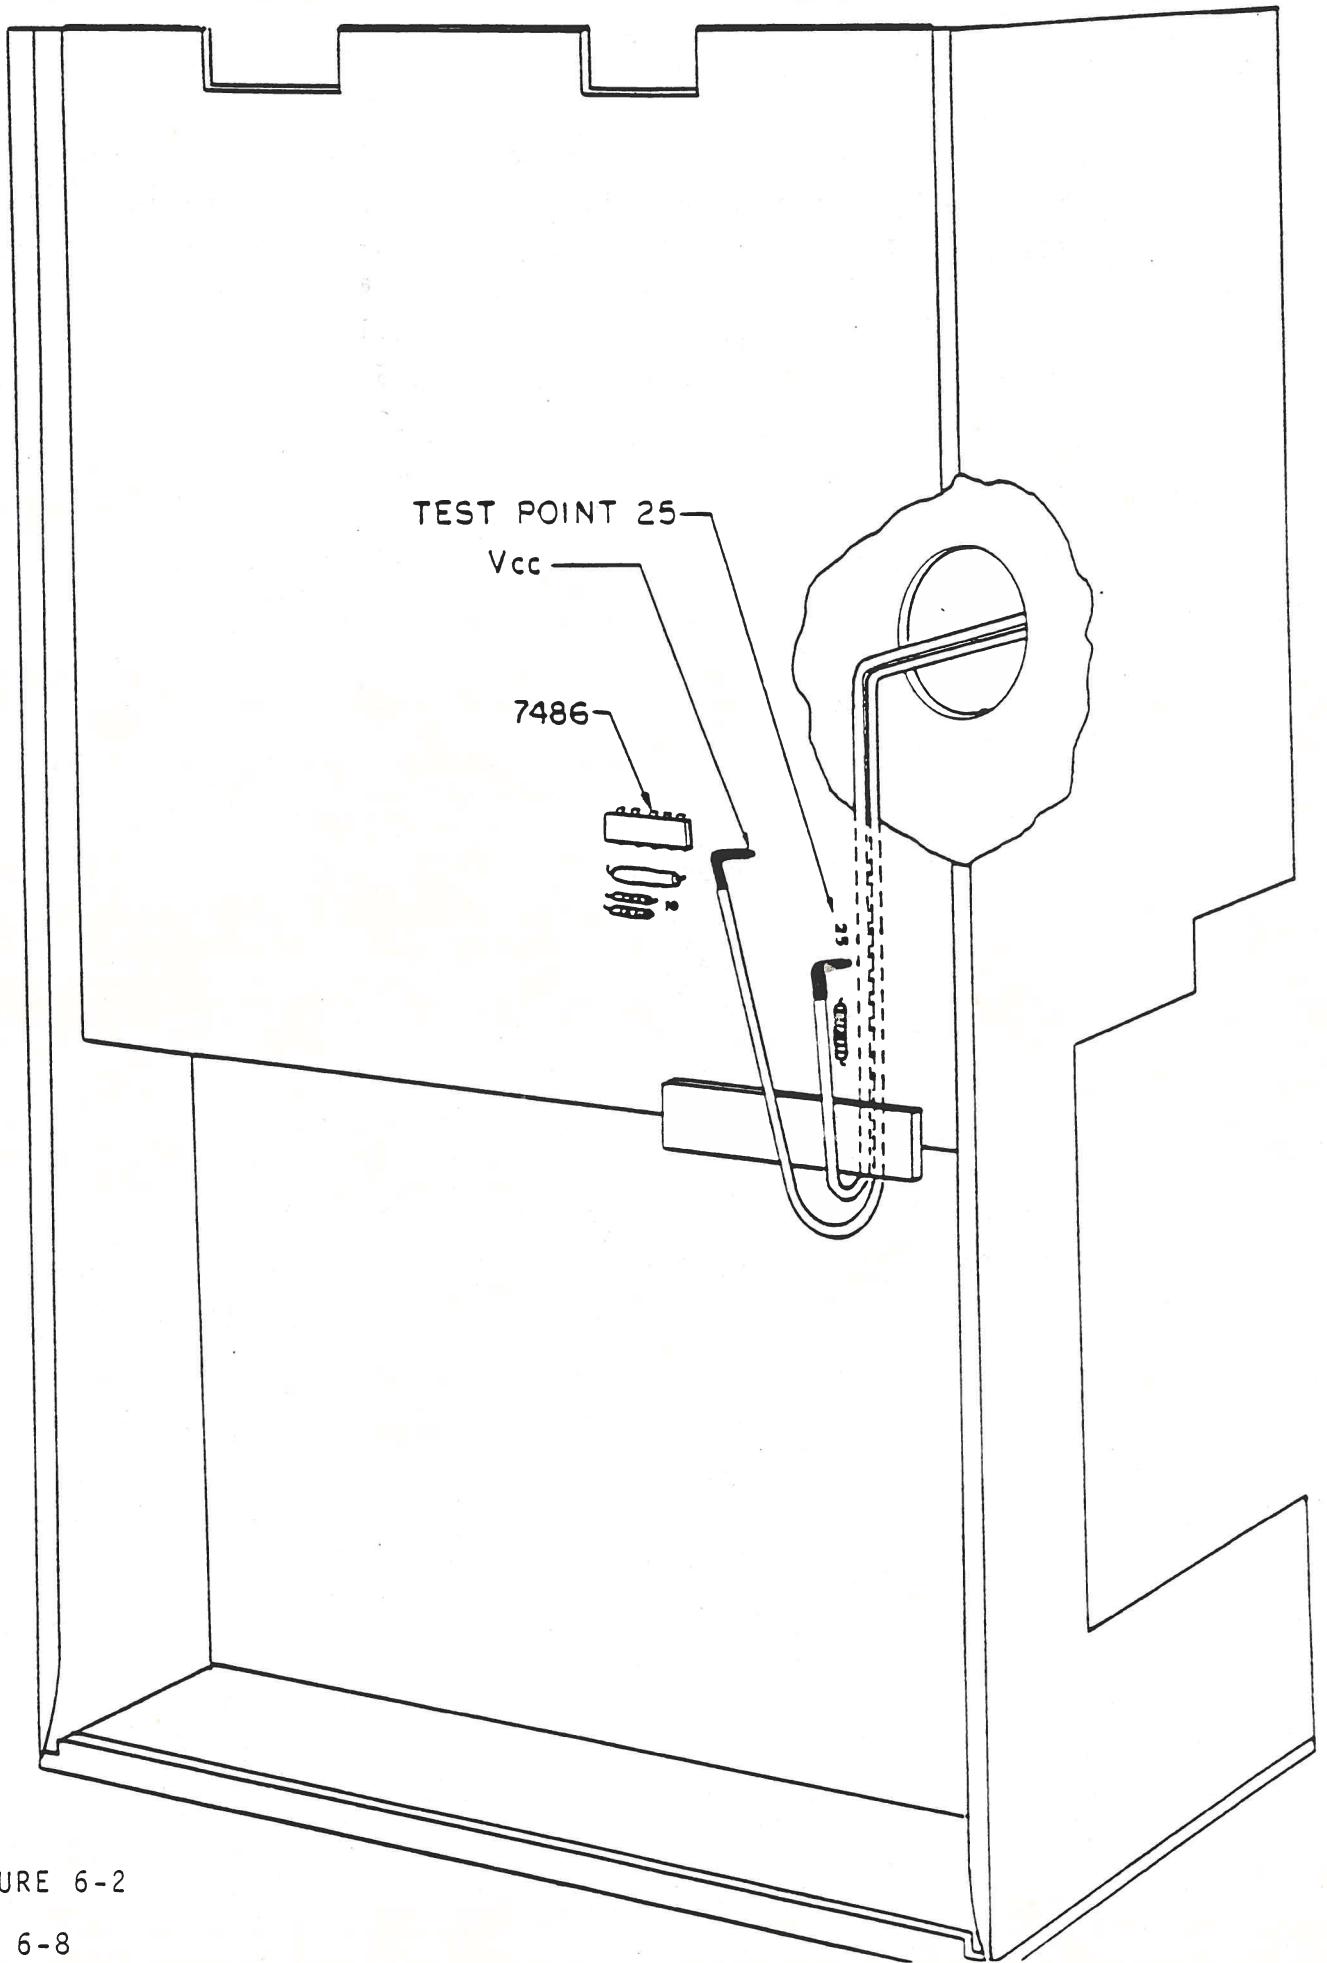

FIGURE 6-2
- (1) The jumper marked HL is moved to DS.
- (2) The jumper marked DS1 is removed. If one wishes the drive to respond as unit 0, place this jumper at DS3. For response as unit 1, the jumper should be placed at DS4.
- (3) The write protect switch is wired between Test point 25 and Vcc (see Figure 6-2).